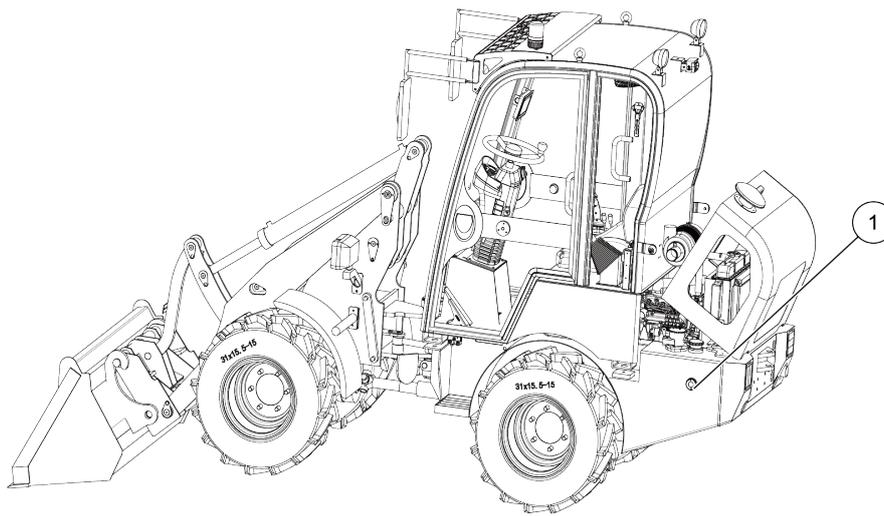

Figure 6-15 Hydraulic oil level gauge
(3) The oil filler cap
Step 2: Check the hydraulic oil level from the oil level gauge (1). When the hydraulic oil is below the lower limit, add hydraulic oil from the oil tank filler port (2). The hydraulic oil should not exceed the upper limit, as shown in Figures 6-15 and 6-16;